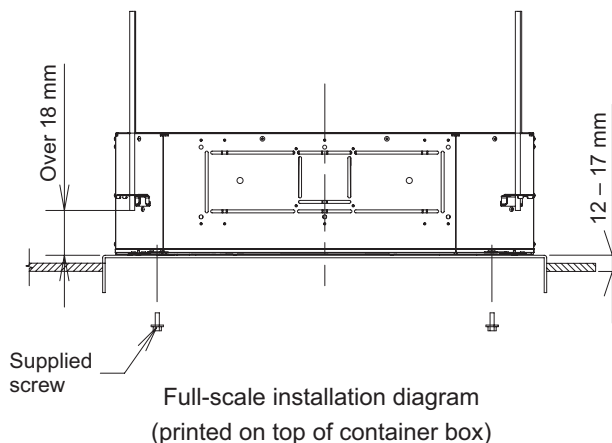

Fig. 2-44
- (1) When placing the unit inside the ceiling, determine the pitch of the suspension bolts using the supplied full-scale installation diagram. (Fig. 2-44)
- (2) The length of suspension bolts must be appropriate for a distance between the bottom of the bolt and the bottom of the unit of more than 18 mm as shown in Fig. 2-44.